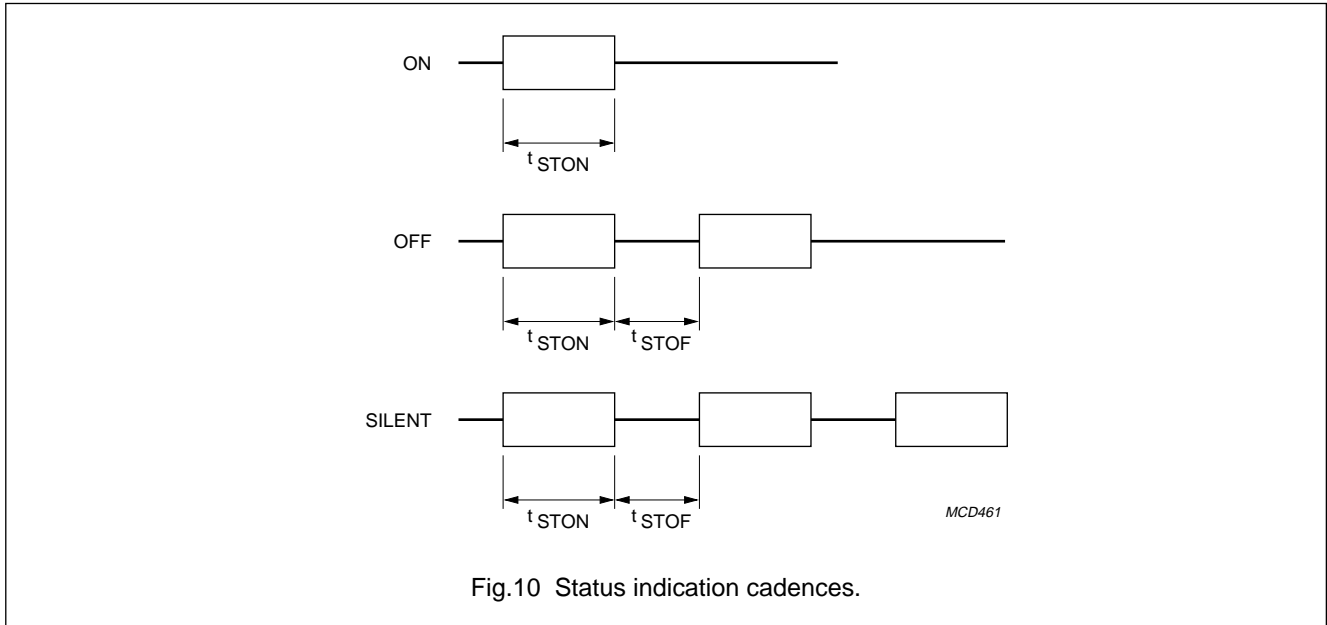

Fig.10 Status indication cadences.
ON status interrogation by the status request and reset input (SR) the PCF5001 generates a status cadence at LOW-level, in accordance with the present internal decoder status (see Fig.10).